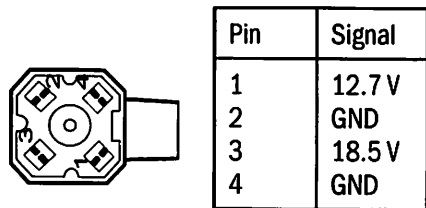
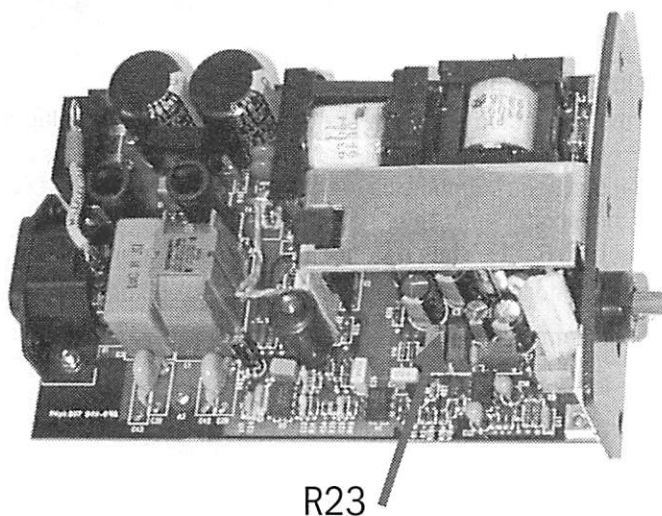

Figure 1 Power adapter's voltages
Figure 2 Adjustment trimmer R23 in N-LPOW
- Connect the power cord to the power adapter and check the supply voltage from the power adapter's connector. PIN 1 voltage must be 12.7 V without load (Figure 1). If necessary adjust the 12.7 V with trimmer R23 (Figure 2).